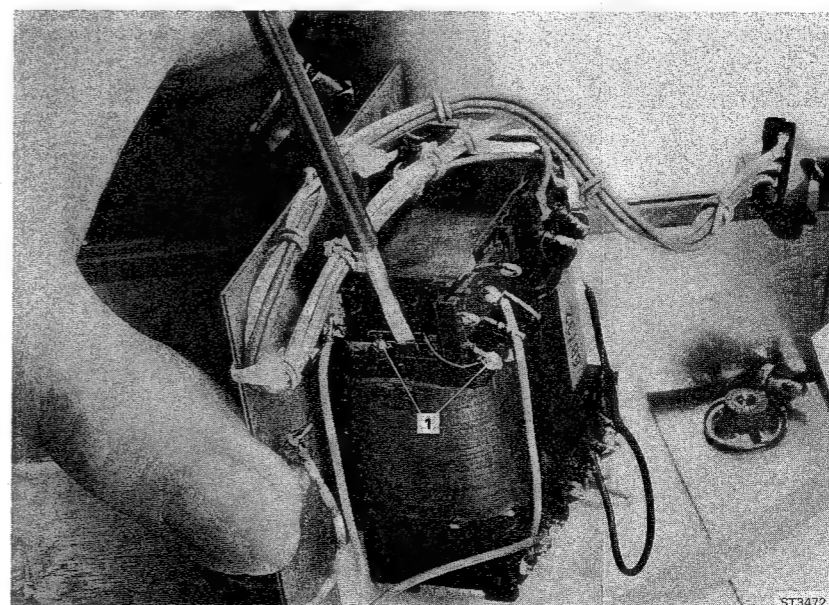

Fig. 45a. Removing the thermal fuse
- Unsolder the connections of the thermal fuse. (fig. 45a. item 1).
- Replace the thermal fuse as shown in fig. 45a.